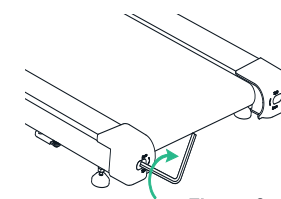

Figure 2
- If the walk belt has shifted to right, use the hex tool to turn the right idler roller screw clockwise $\frac{1}{4}$ of a turn (refer to figure 2).